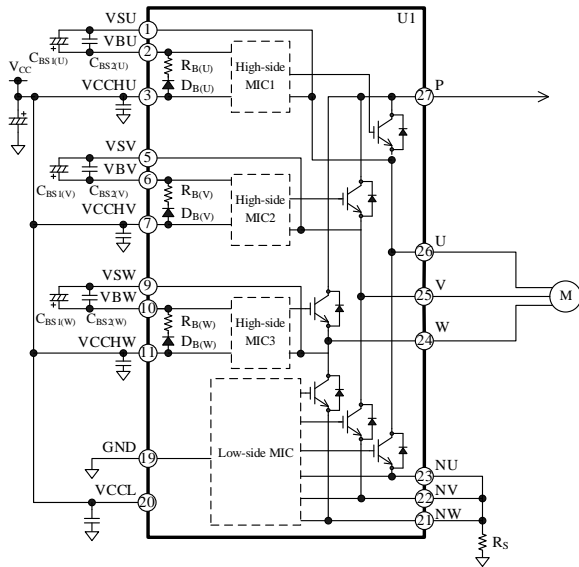

Figure 14-1. Bootstrap Circuit
As Figure 14-1 shows, bootstrap diodes, DB(x), and current-limiting resistors, RB(x), are internally placed in series between the VCCHx and VBx pins. Time constant for the charging time of CBS1(x),  $\tau$ , can be computed by Equation (3):